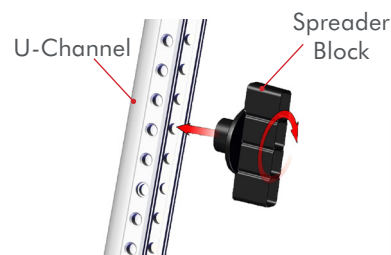

Figure 3
STEP 4 Insert the **Spreader Block** into the **U-Channel** and twist it to remove the defective **Knuckle**. **FIG 3**